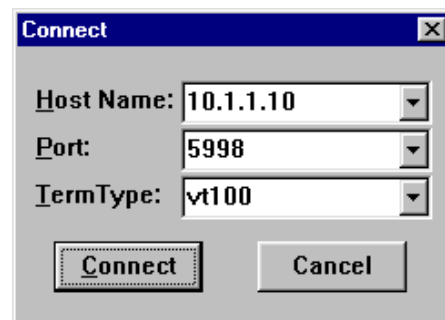

Figure 123. TELNET Terminal Connection Dialog Box
9. Enter the TCP/IP address of the desired Network Station and the console log port ID of **5998**. Please refer to Figure 123.